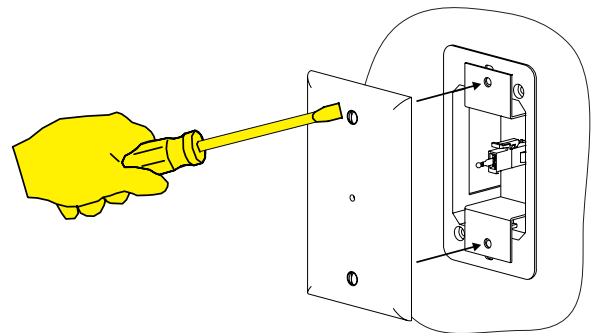

Figure 6
10. Install the cover plate, the temperature sensor must protrude through the hole in the center of the cover plate. The cover plate screws will pass through the holes in the wall bracket assembly and secure both to the wall box. **See Figure 6.**